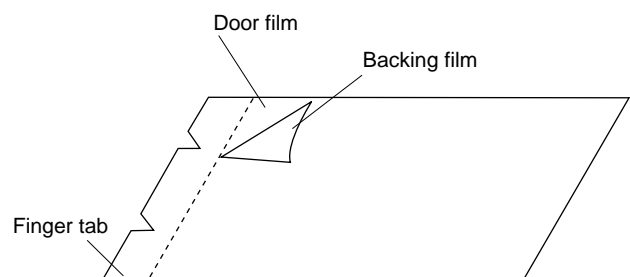

Figure C-6. Inner Sealer Film
2. Hold the glass stopper with the one (1) screw.
5. Put sealer film on door panel. Refer to "Inner Sealer Film" and figure C-6, on how to handle the new film.
6. Catch two (2) pins of door panel on two (2) hole of upper and lower oven hinges.